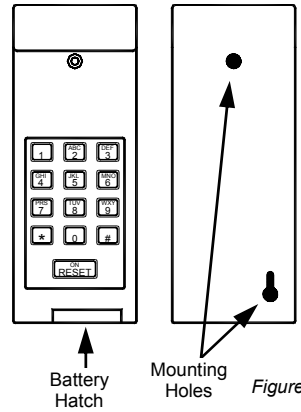

Figure 1
**Step 2:** The screws provided are adequate for mounting directly to wood or similar material. When mounting on masonry or similar material plastic anchors are recommended. Drill a hole for the bottom screw. Install the screw leaving the head of the screw approximately 1/8 inch out from the wall. Slide the keypad over the screw and mark the position of the top hole. Remove the keypad and drill the top hole. Slip the keypad back over the exposed screw and finish mounting by installing the top screw. Refer to Figure 1.